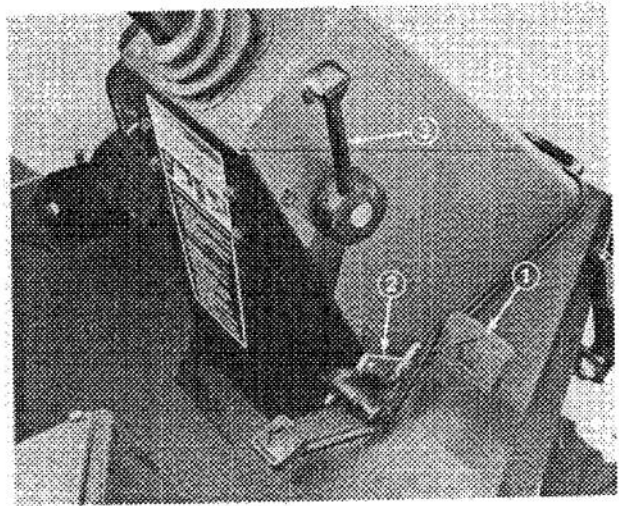

Figure 21
Traction Pedal (Fig. 21) – Controls forward and reverse operation. Depress top of pedal to move forward and bottom to move backward. Ground speed depends on how far pedal is depressed. For no load, maximum ground speed, fully depress pedal while throttle is in FAST. For maximum power under load or when going uphill, keep engine rpm high by having throttle in FAST and traction pedal partially engaged. If engine rpm begins to decrease due to load, gradually reduce traction pedal pressure until engine speed is increased.
Speed Selector (Fig.21) - Cam lever at side of traction pedal can be rotated to maintain desired speed. Rotating
Axle Shift Lever (Fig.21) – Located on right side of console, lever selects front drive mode. Move lever rearward for mowing operation and forward for transport operation. Middle position (N) is for towing.